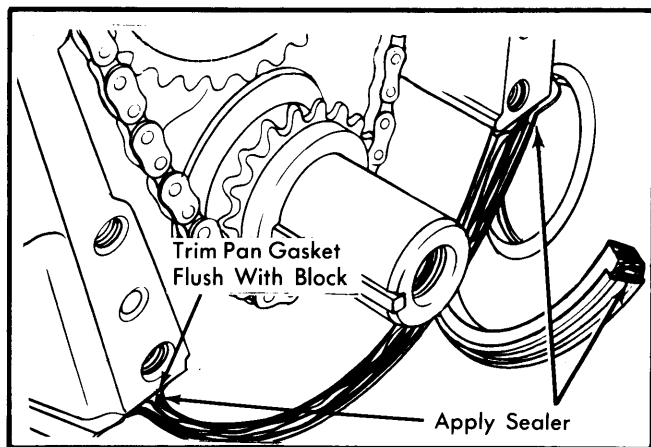
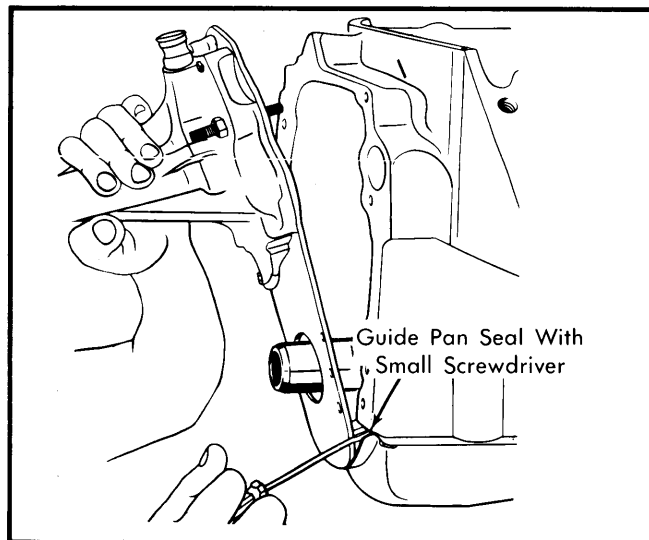

Fig. 9 Pan and Cover Seal Installation
Fig. 10 Front Cover Installation
2) Apply suitable sealer at junction of block, pan and front cover. See Fig. 9. Install front cover pressing downward to compress seal. Rotate cover left and right to guide pan seal into cavity using a small screwdriver. See Fig. 10.